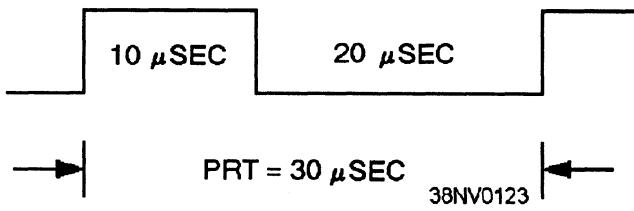

Figure 4-8.—Example of pulse-repetition time (PRT).
- **Pulse-repetition time (PRT)** —The PRT of a signal refers to the time period from the starting point of a repeating waveshape until the starting point of the next repetition. Refer to figure 4-8 for an example measurement.
Using figure 4-8, we can calculate the PRF. Since the PRT is 30 msec, then using the formula would give: $\text{PRF} = 1/\text{PRT} = 1/30 \text{ msec} = 33 \text{ kHz}$.